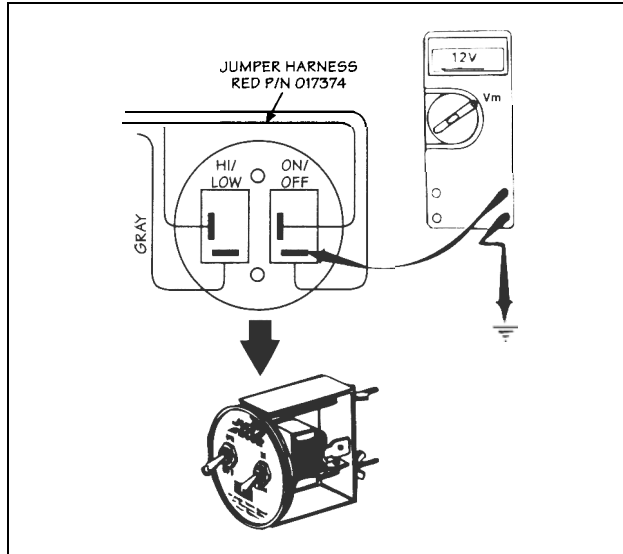

FIG. 1.1.11
**Correction:** Connect VOM positive (+) probe to common (lower) terminal of ON/OFF switch and negative (-) probe to ground (Fig. 1.1.11). With ignition switch on, VOM should read +12 volts. If not, check circuit breaker or fuse and wiring to switch and repair/replace as needed.